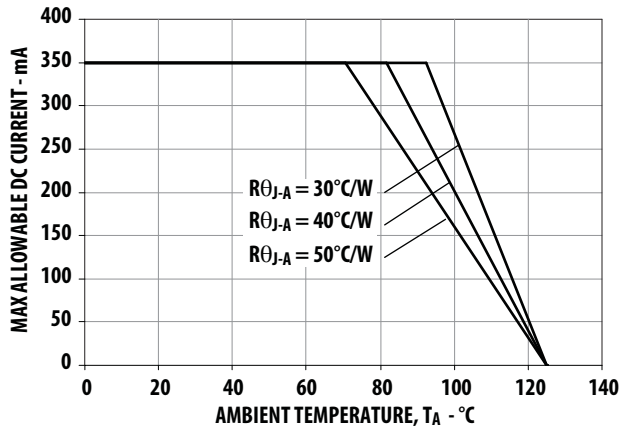
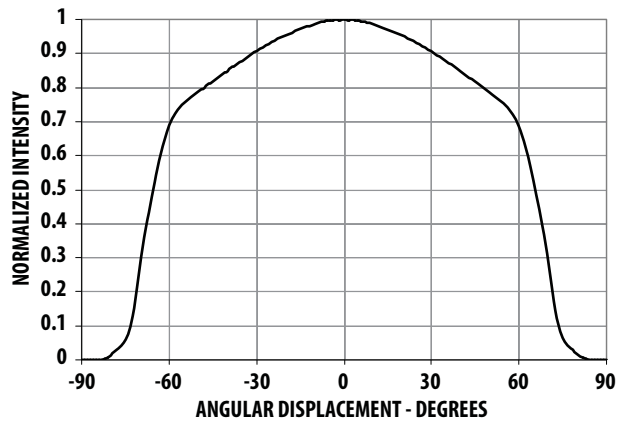

Figure 10. Maximum Forward Current vs. Ambient Temperature.
Figure 17. Radiation Pattern for Cool White, Neutral White and Warm White.
1. Derate linearly based on Figure 10 for AlInGaP and Figure 17 for InGaN.